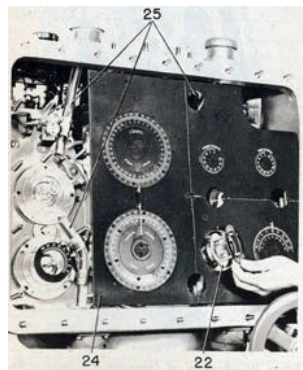

Figure 106-Removal of Dials, Shields, and Light Rods.
24. Remove all dial shields. See figure 106.
25. Loosen screws and slip out three light rods from the front of the director case. Figure 106.
22. Remove all dials (19) from front of director. Be careful not to scratch or deface the dials. See figure 106.